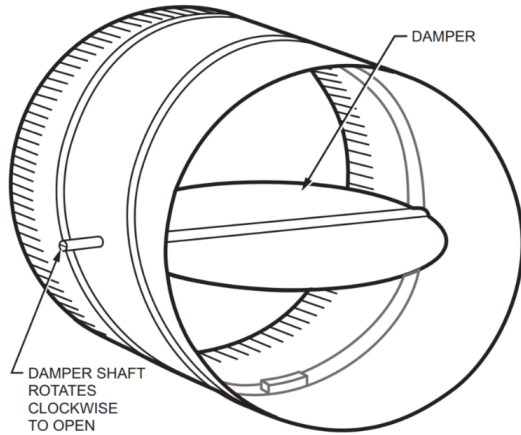

Fig. 7. Damper with 90 degree CW rotation to open
2. Determine the damper 'full opening angle' (45, 60, or 90 degrees). In Fig. 7 the damper is open to its fully open position of 90 degrees.